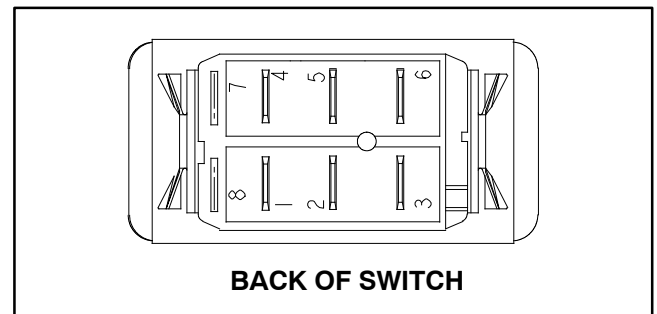

Figure 41
4. With the use of a multimeter (ohms setting), the switch functions can be tested to determine whether continuity exists between the various terminals for each switch position. The reel engage/disengage switch terminals are marked as shown in Figure 41. The circuitry of this switch is shown in the chart below. Verify continuity between switch terminals.